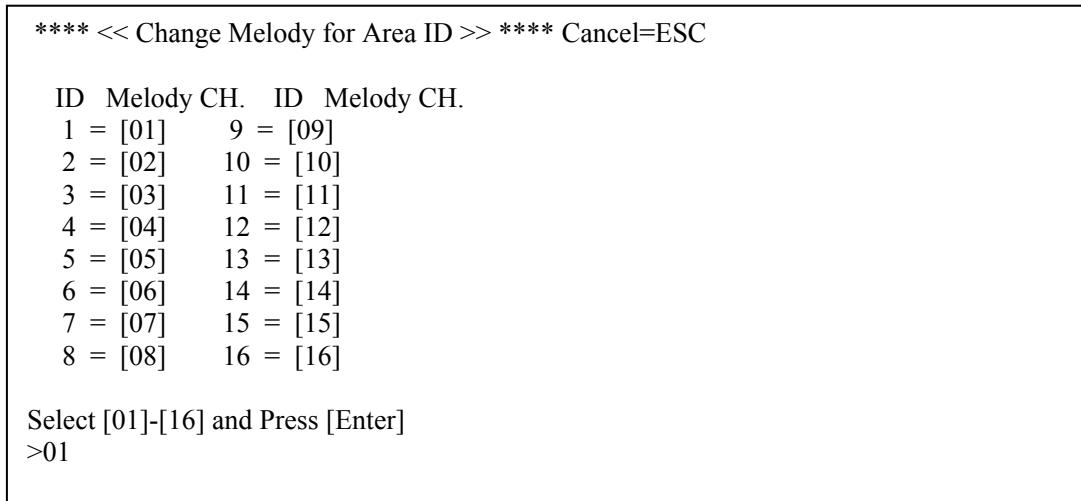

Fig.4-22 Setting Melody Channel for Area ID
□Change Melody for Area Id (Select [□] in Fig.4-22)